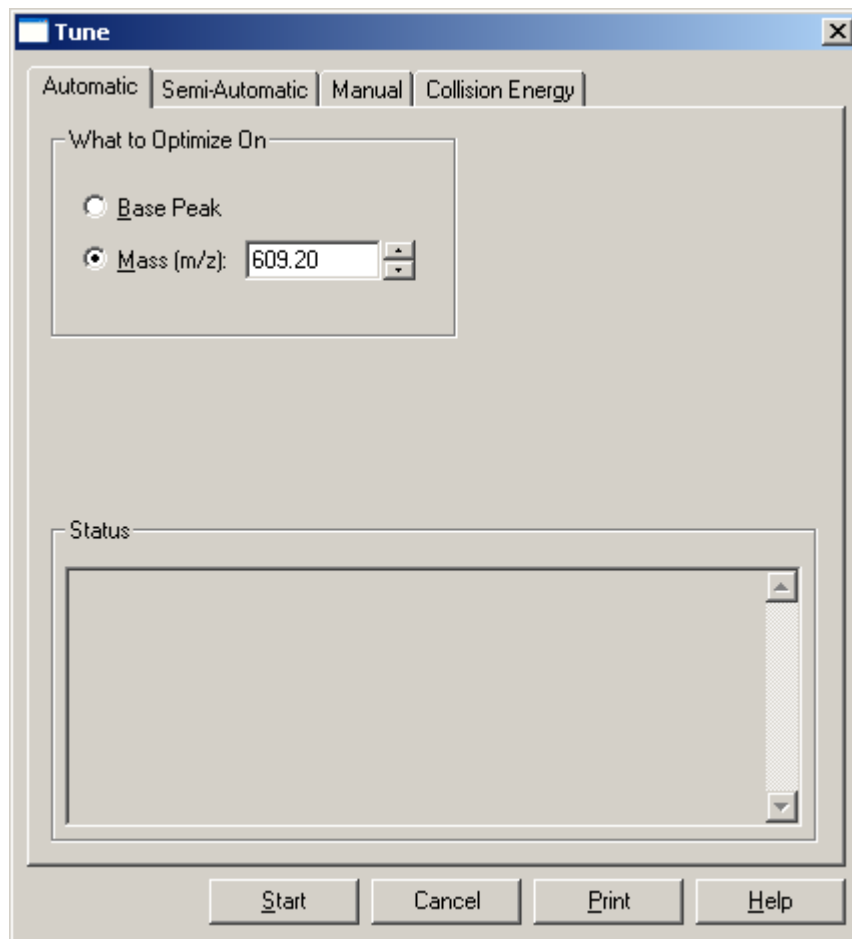

Figure 33. Tune dialog box, showing the Automatic tuning page
2. If necessary, click on the Automatic tab to display the Automatic tuning page. See Figure 33.